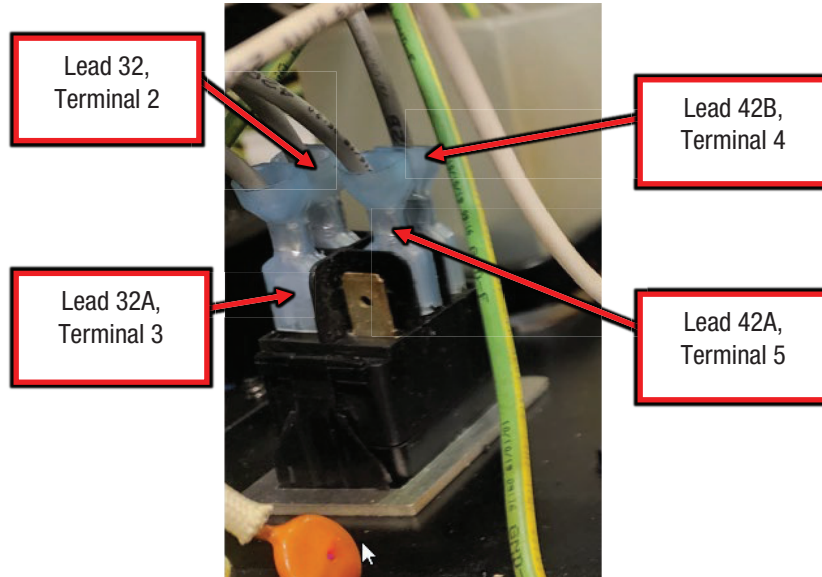

Figure F.2
A.2. Label and disconnect the following connections, refer to Figure F.2..
A.3. Perform the static measurements in Test Table 1, refer to Figure F.2 for test point locations. NOTE: LEADS ARE REMOVED FOR TESTING, MEASUREMENTS ARE MADE ON THE SWITCH TERMINALS.